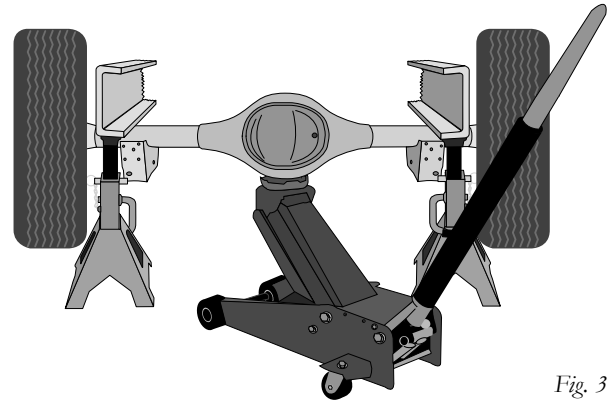

Fig. 3
1. Raise the vehicle, support the frame with safety stands and remove the wheels. Drop the axle to make room for the air spring assemblies to be put into position between the frame and axle (Fig. 3).